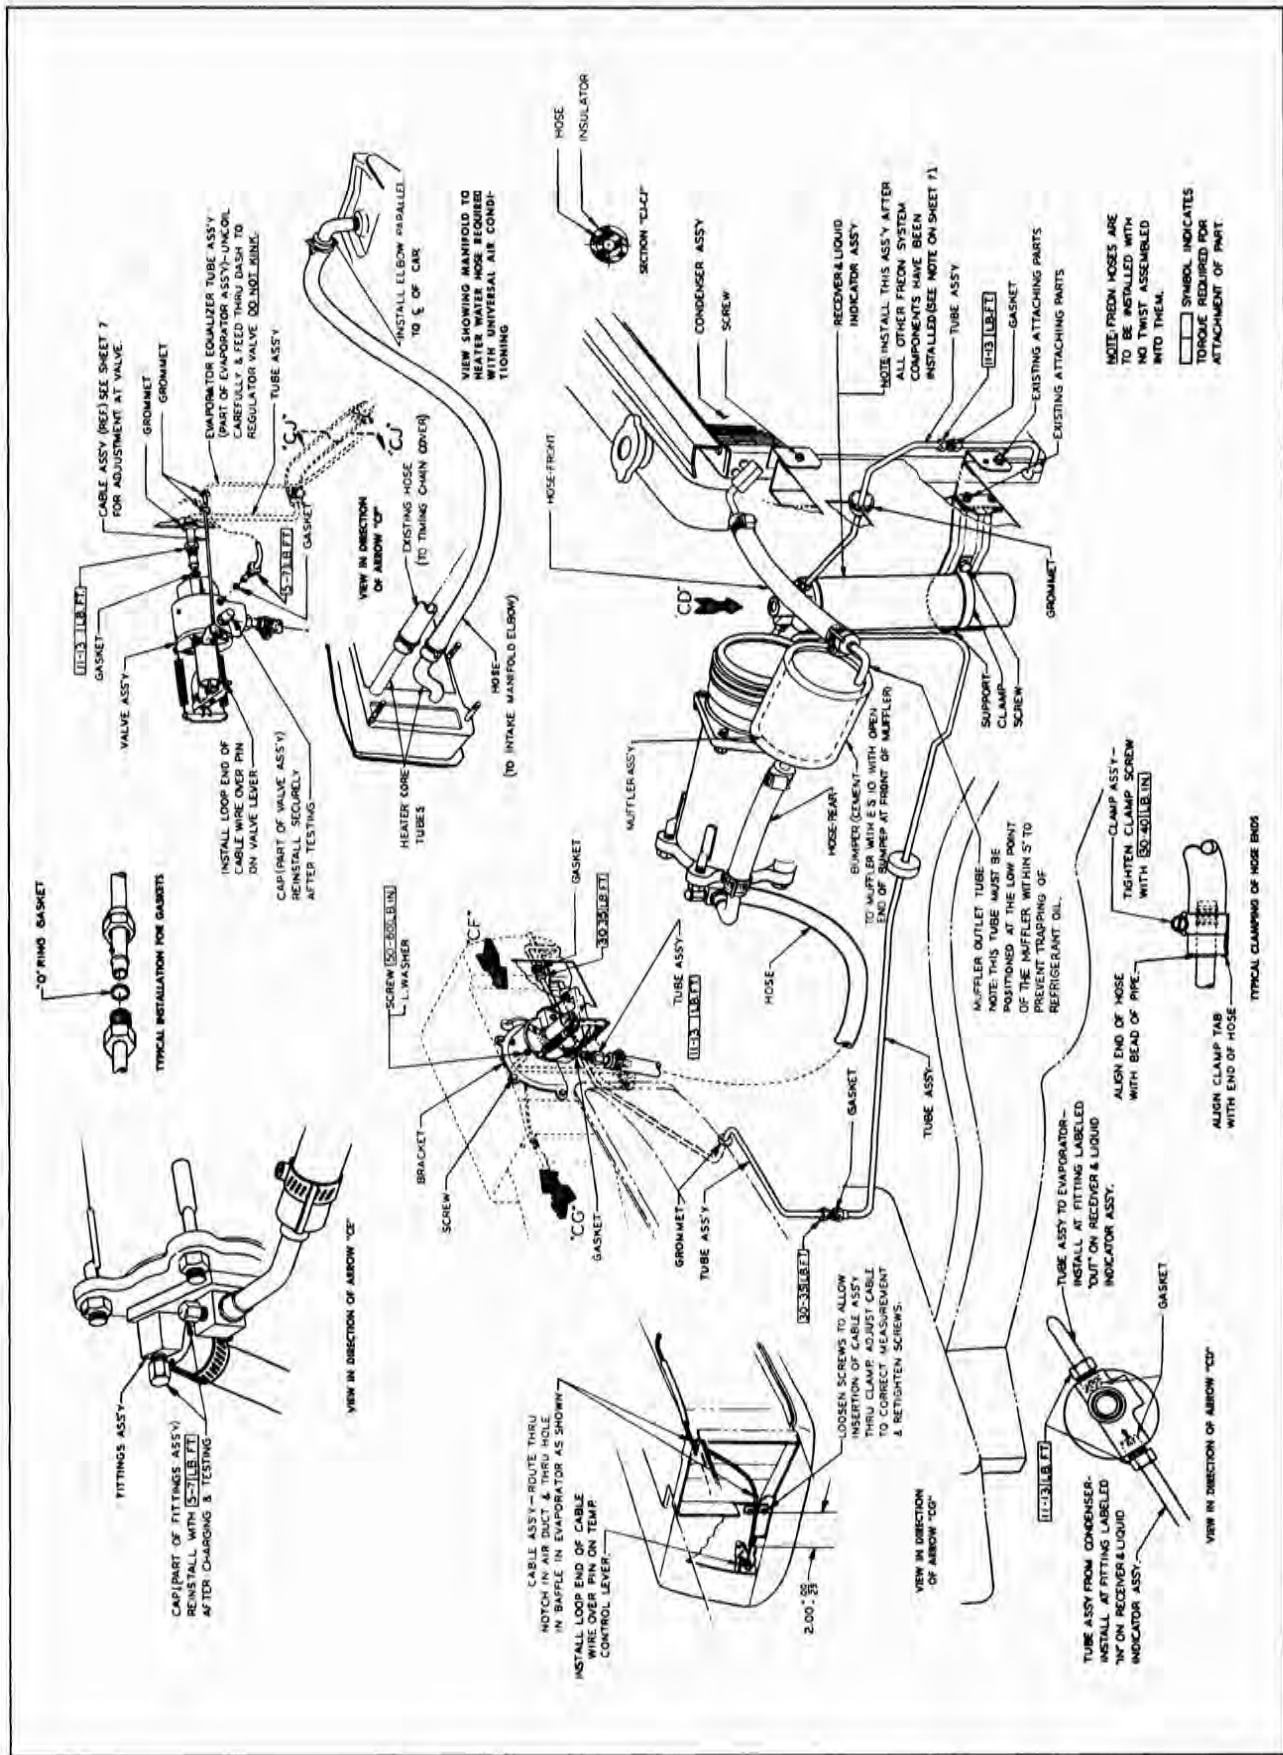

Fig. 6-38 Reference Illustration—Pontiac Cool Pack Refrigeration System
7. Disconnect connection at condenser outlet and plug openings (Fig 6-38).